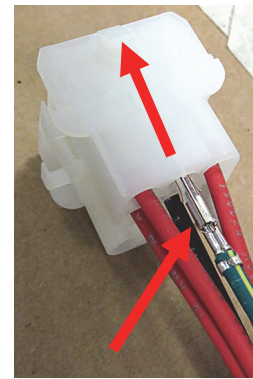

Figure 18
22. Insert the pin of the green/yellow ground wire, removed in step 5, into the number 2 pin position, of the 12-pin Molex female connector, in the new supplied harness (see Figure 18). Give a gentle tug on the wire to ensure the pin is fully seated into the connector.